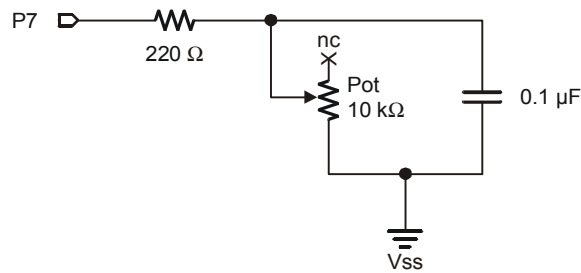
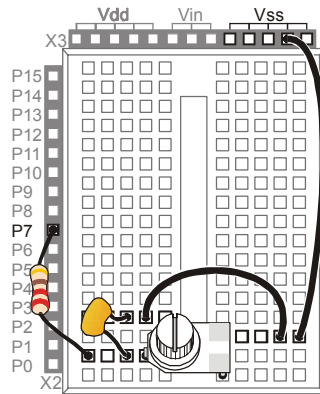

Figure 5-11
Figure 5-12
Figure 5-11 shows a schematic for the fast RC-time circuit, and Figure 5-12 shows the wiring diagram. This is the circuit that you will use to monitor the position of the potentiometer's input shaft with the help of the BASIC Stamp and a PBASIC program.
√ Build the circuit shown in Figure 5-11.
- √ Leave your potentiometer RC-time circuit from Activity #3 on your prototyping area. If you need to rebuild it, use Figure 5-11 on page 150 and Figure 5-12 on page 151. Make sure to use the 0.1 μ F capacitor, not the 0.01 μ F capacitor.